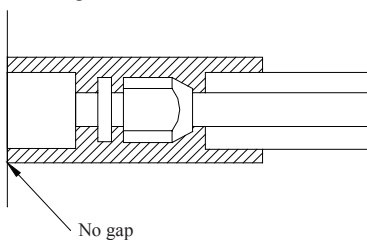

Fig.7
2) The joints of the indoor unit should be wrapped with the insulating material and no gas is allowed on the joint of the indoor unit, as shown in Fig.7.